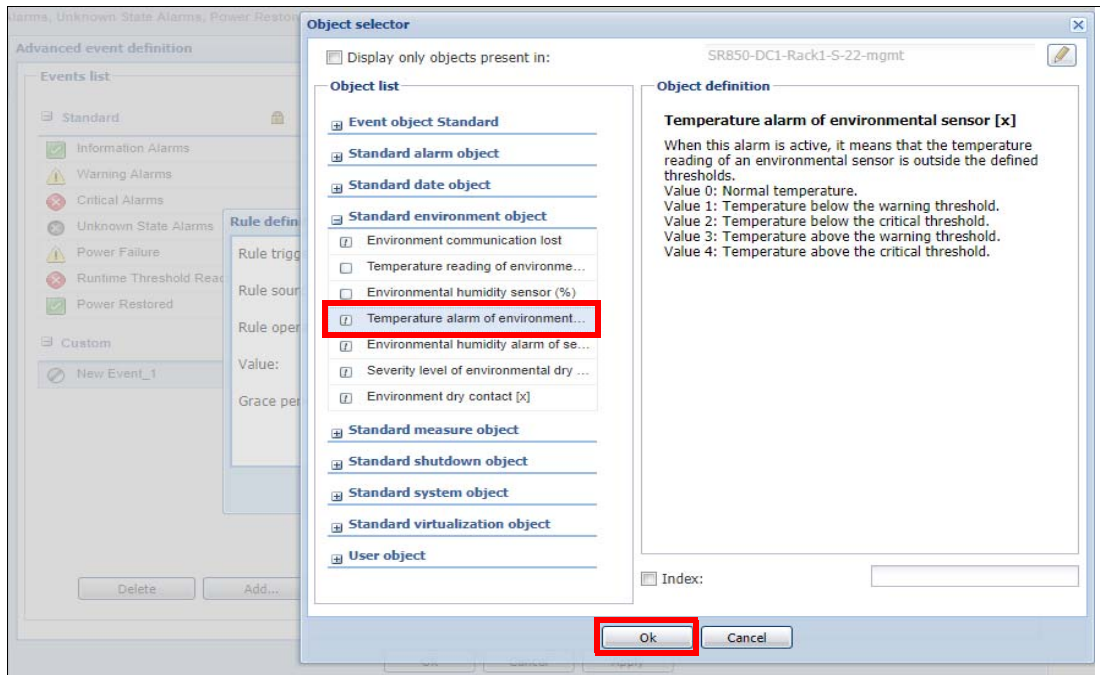

Figure 41 Select trigger rule and apply to node
6. Click the Pencil icon next to the Rule trigger field to open the object selector, Figure 41.
7. To apply a trigger rule to a node, check the box **Display only objects present in** at the top of the window in Figure 41 and click the Pencil icon in the top-right corner. This will display the discovered nodes. Select a discovered node then click **Ok**. The object list will be updated with the custom triggers available to that node.